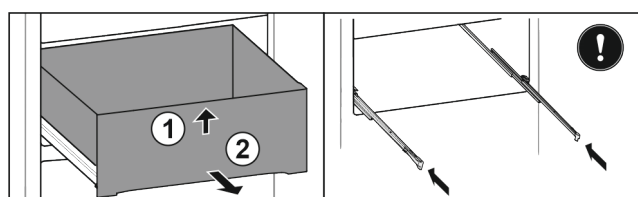

Fig. 28\*
- ▶ Lift up the drawer at the front Fig. 28 (1).\*
- ▶ Take out to the front Fig. 28 (2).\*